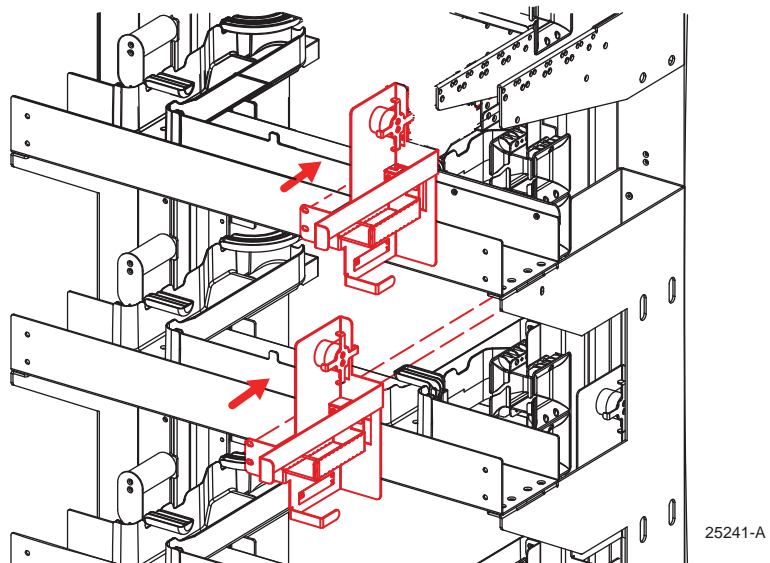
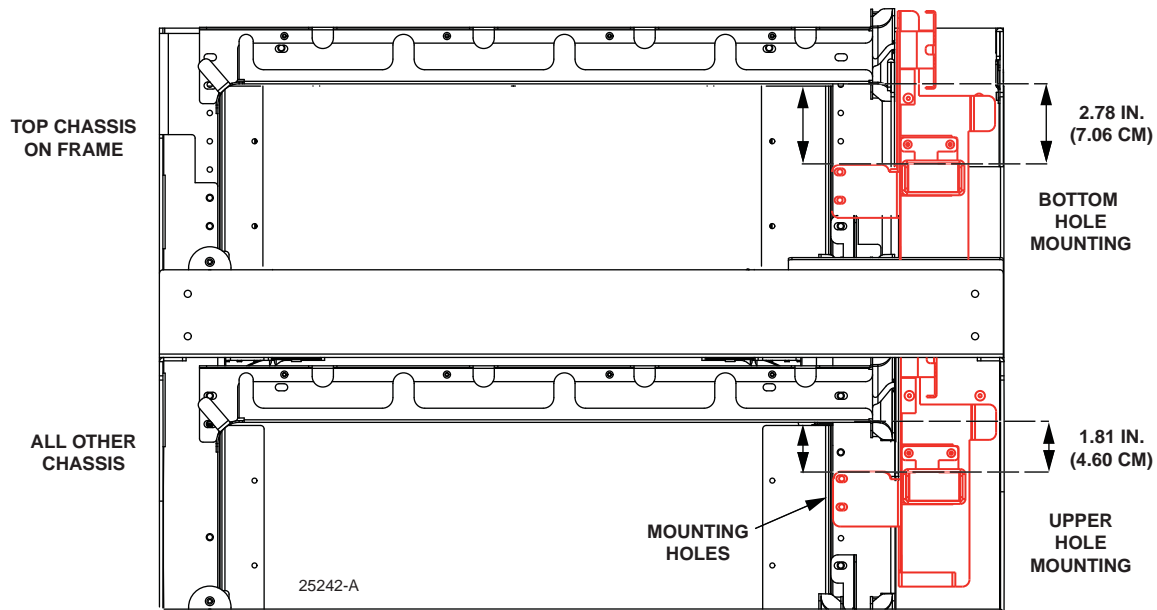

Figure 51. Installing the Auxiliary Cable Spool Bracket
Figure 52. Rear View of Bracket Locations (Top Two Chassis)
2. Install the auxiliary cable spool bracket in the location from which the vertical cable guide was just removed. Refer to Figure 51 and Figure 52.
► **Note:** Top chassis mounting holes are different than for other chassis in frame. Mount as shown in Figure 52.